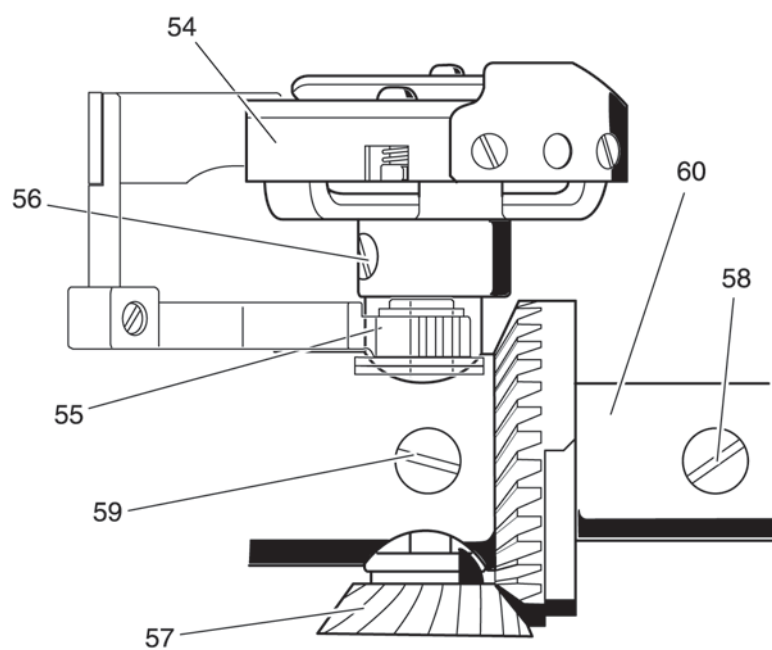

Fig. 29a
- Turn out screw 58 of lifting eccentric 60 (fig. 29a).
- Loosen both screws 56 of the sewing hook (fig. 29a).
- Insert the new hook-driving shaft with bevel gear 57 in the sewing hook bearing (fig. 29a).
- Slightly tighten screw 58 of lifting eccentric 60 (fig 29a).